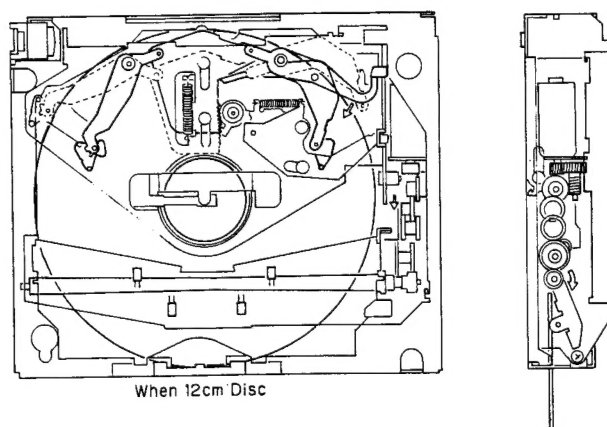

Fig. 89
4. The clamper arm distinguishes the size of the disc and has a centering function mechanism which clamps the disc in the center of a spindle motor. The centering arm operates as a single unit with the centering lever on top of the clamper arm, to keep the fulcrum movement centered. Centering pins and lock arms are attached to the tips of the centering arm. Centering pins are positioned so that when an 8cm disc is placed on the spindle the external edge touches the pins. Lock arms revolve around centering pins. When an 8cm disc is mounted it is locked in place by the clamper arms. When a 12cm disc is mounted, the lock is released and moves according to the broken line in Fig. 89. The position of the detect arm which is mounted on the centering arm at the bottom right of the figure differs for 8cm and 12cm discs. When a disc is placed on the spindle the detect lever, which moves in a clockwise direction on the outside edge, moves to the lower section of the figure.